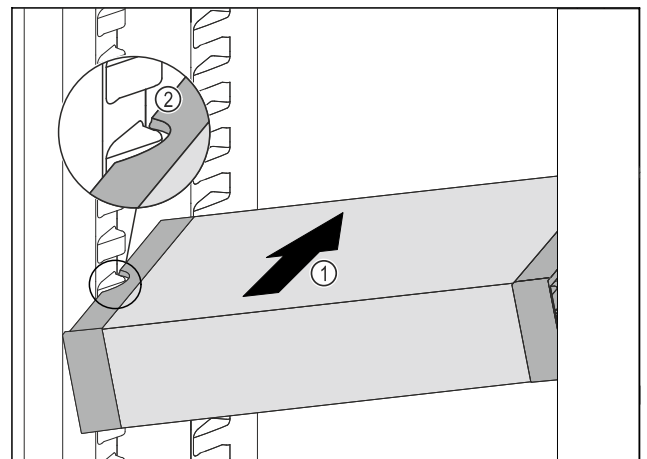

Fig. 200
- Insert the VarioSafe into the fridge section at an angle Fig. 200 (1) until the recesses in the side Fig. 200 (2) of the VarioSafe are at the level of the support rib in the fridge section.